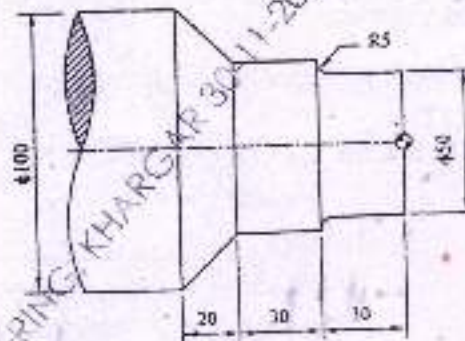

Fig. 1
- a) Write a Manual part program for finishing the following forged component as shown in Fig. 1. Illustrate the meaning of each code used in the program and the tool movement by showing the tool path. 08
- c) Write the program for the above component (fig.1) assuming the raw billet size of dia. 100 mm and length 150 mm, using the canned cycle for rough turning followed by finished turning, keeping the finishing allowance as 0.5 mm and 0.3 mm along Z and X axis respectively. 06